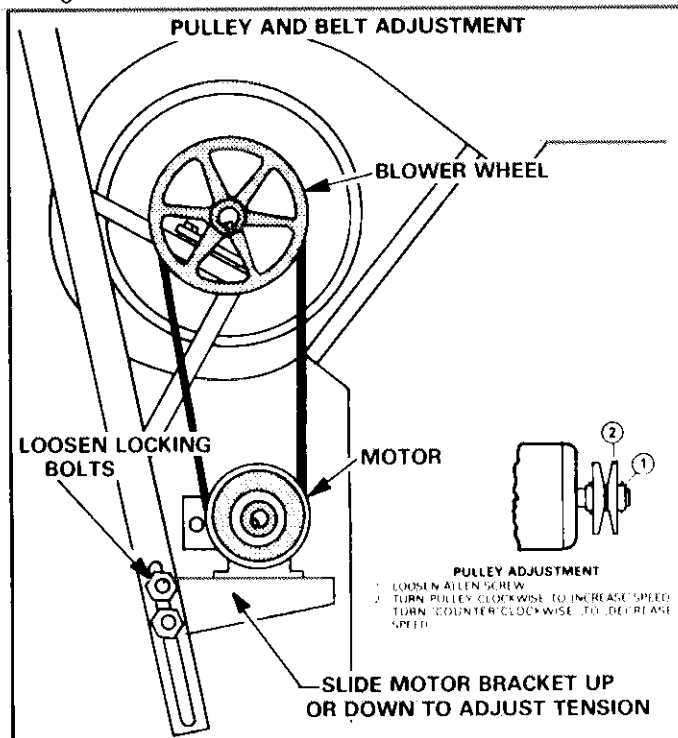

FIGURE 22
- The CFM can be adjusted at the motor pulley. Loosen the allen screw, and then turn adjustable sheave clockwise to increase CFM or counter-clockwise to decrease CFM. See Figure 22.
Maximum life and wear can be obtained from the belt only if proper pulley alignment and belt tension are maintained. Initially, tension new belt after a run in period of 24-48 hours. This allows belt to stretch and seat in the grooves. To adjust belt tension, loosen 4 locking bolts and slide motor bracket up or down. See Figure 22.